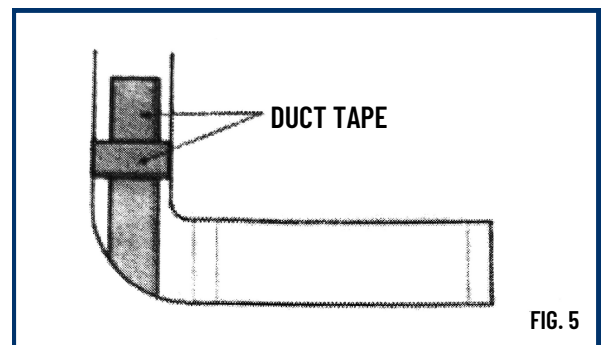

FIG. 5
7. Insert 4" elbow through the rear of the dryer and connect the elbow to the dryer internal duct as shown in (Fig. 3). Wrap duct tape around the joint as shown in (Fig. 5).
8. Apply duct tape on the joint between the dryer internal duct and elbow, as shown in (Fig 5.).